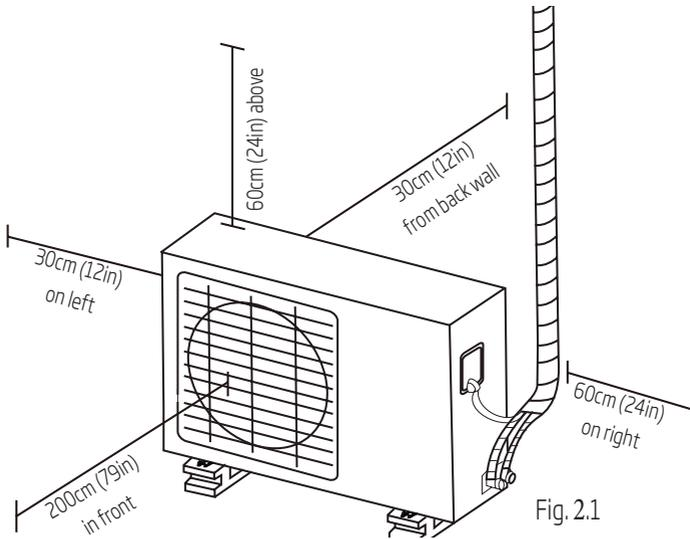

Fig. 2.1
- Meets all spatial requirements shown in Installation Space Requirements (Fig. 2.1)